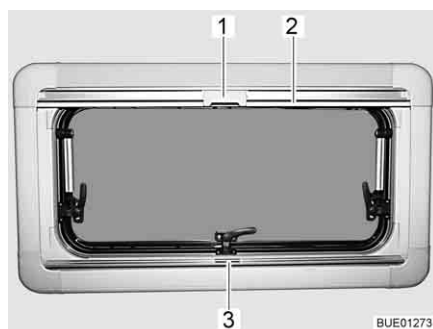

Fig. 88 Hinged window
- Grip the Roman shade in the centre of the holding bar (Fig. 88,3), pull it from the bottom to the top and then release it at the desired height. The Roman shade will stay at this height.
- Pull the insect screen down using the holding bar (Fig. 88,2), until it touches the holding bar of the Roman shade (Fig. 88,3).
- Clip the catch (Fig. 88,1) on the insect screen into the handle of the Roman shade.
- Push the catch (Fig. 88,1) on the insect screen inwards.
- Move the insect screen back slowly on the holding bar (Fig. 88,2).